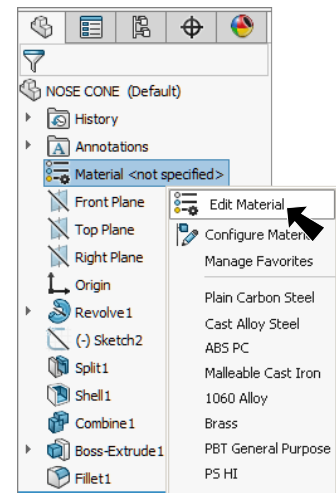

Fig. 33
Step 1. Right click Material  in the Feature Manager and click **Edit Material**, Fig. 33.